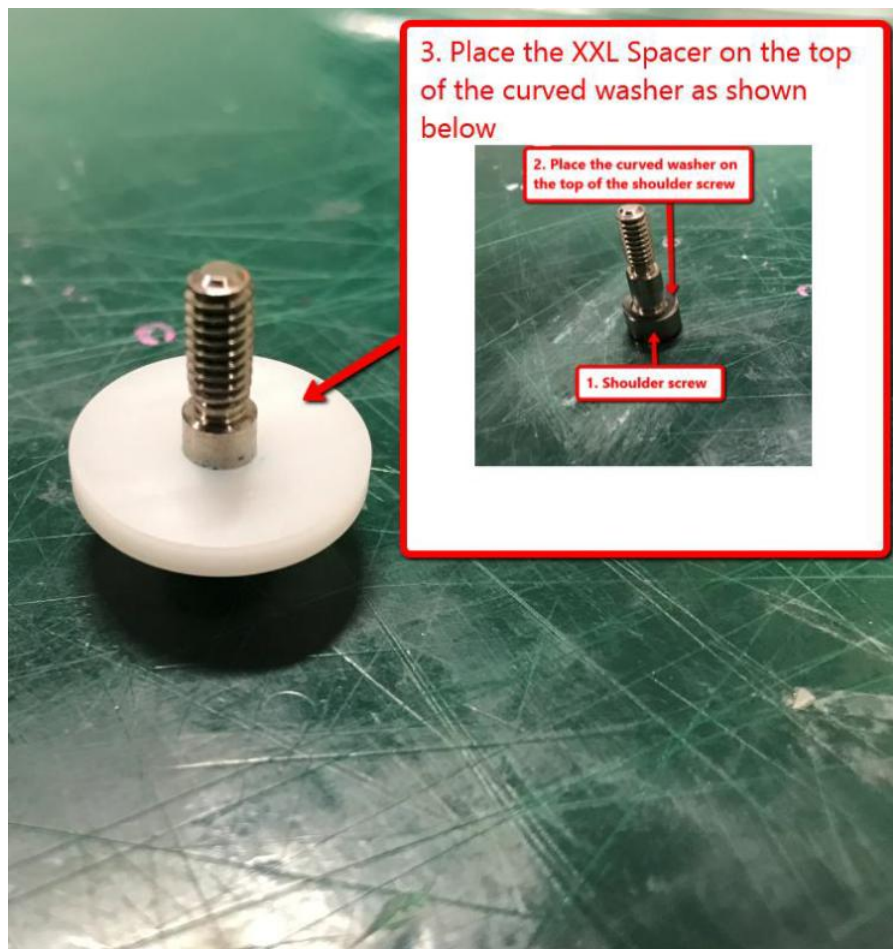

Figure 9 Shoulder Screw
3. Assemble below fastening by refer below sequence. May refer to Figure 9